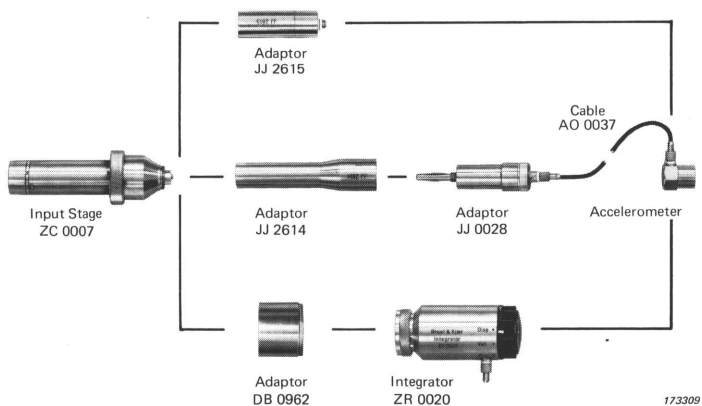

Fig. 3.1. Connection of accelerometer
1. Mount the Accelerometer on the 4291 and connect to the Integrator (if required) and the 2203 (Fig.3.1).
9. Note the attenuator setting inside the red lines and add 10 dB. This gives the zero reference level in dB (Z) corresponding to 1 g RMS or any of the following vibration reference amplitudes (R) to which the 2203 is now calibrated depending on the Integrator setting:
1. Connect the Accelerometer to the Integrator (if required) and the 2203 (Fig.3.1).